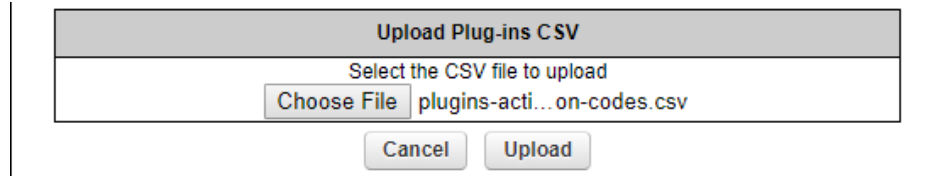

Figure 71. MANAGE PLUG-INS DIALOG (Upload Plug-ins CSV section)
7. Upload the *.CSV file to the unit by clicking the **Choose File** button in the **Upload Plug-ins CSV** section (Figure 71 (page 157)) and following the software prompts.